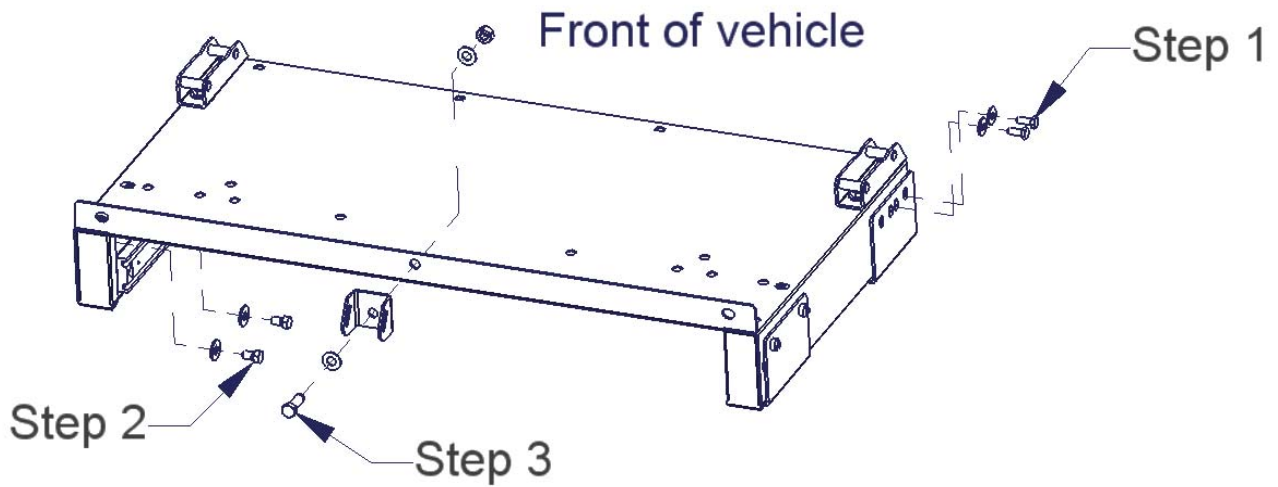

FIGURE 4
13. Install (2) of the 1/2" holes plugs in the holes which will be partly covered by the (2) original rear seat brackets. Mount the original rear (2) seat brackets to the top of the drawer using (4) 7/16 x 1 1/4" Bolts, (4) 7/16 Nylock Nuts, and (8) 7/16" Washers. (See Figure 4)